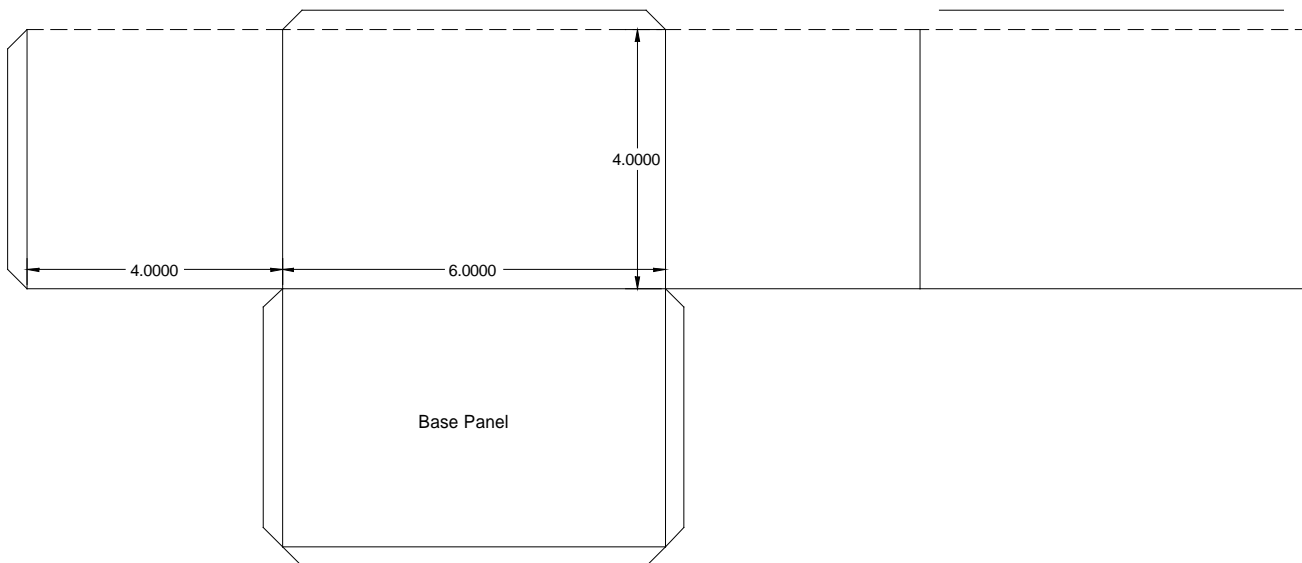

Figure 8.13
1. **Figure 8.13** shows a net for the base of the barn with the indicated dimensions - Length 6", width 4", and height 4".